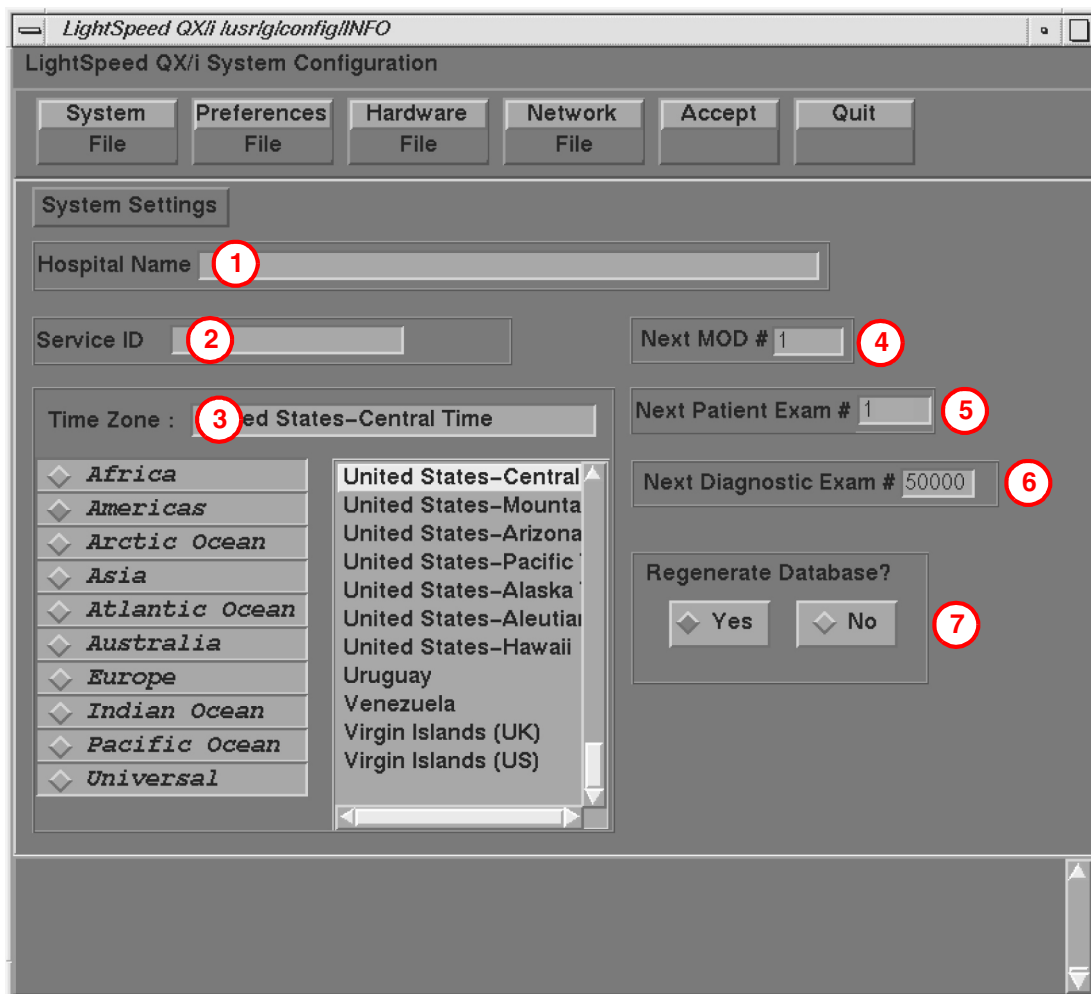

Figure 6-13 System Settings Screen
The OC displays the LightSpeed Plus System Configuration - System Settings Screen as shown in Figure 6-13.
- a.) Hospital Name (Figure 6-13, item 1) configures the name that will show up on images produced by this scanner. *Example: ST MARYS HOSPITAL*
- b.) Service ID (Figure 6-13, item 2) is issued by the Service organization. *Example: 262785CT2 (no spaces)*
- 6.) Regenerate Database (refer to Figure 6-13) determines whether the Scan Database will be regenerated during reconfiguration.